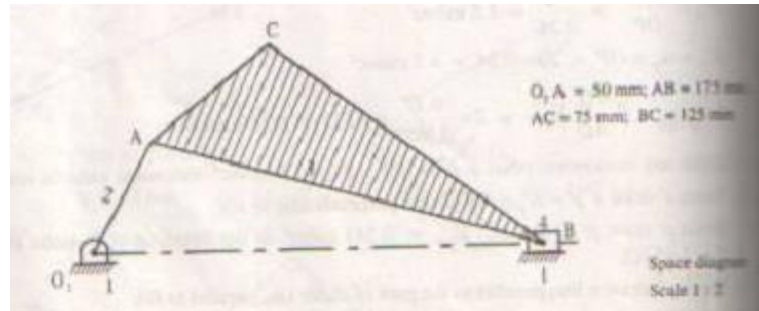

Fig. 2.1
1. In mechanism shown in fig.2.1, crank2 rotates at 3000rpm. Find the acceleration of the point C in magnitude, direction and sense. Find also the angular acceleration of link 3.